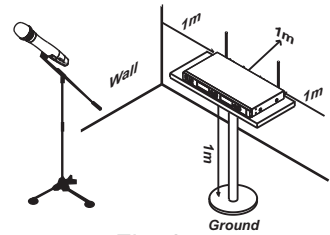

Fig. 8
4. For ideal reception range, install the receiver at least 1 meter above the ground and away from EMI / RFI “noise” sources. In addition, place the transmitter at least 1 meter away from the receiving antenna, as shown Fig. 8.